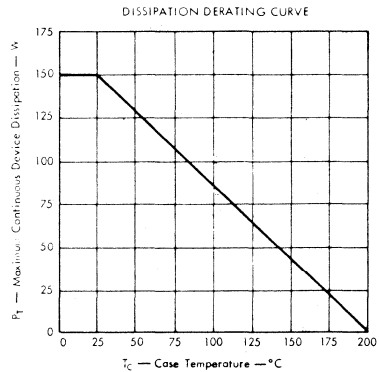

FIGURE 2
4. Derate linearly to 200°C case temperature at the rate of 0.855 W/deg see Figure 2.